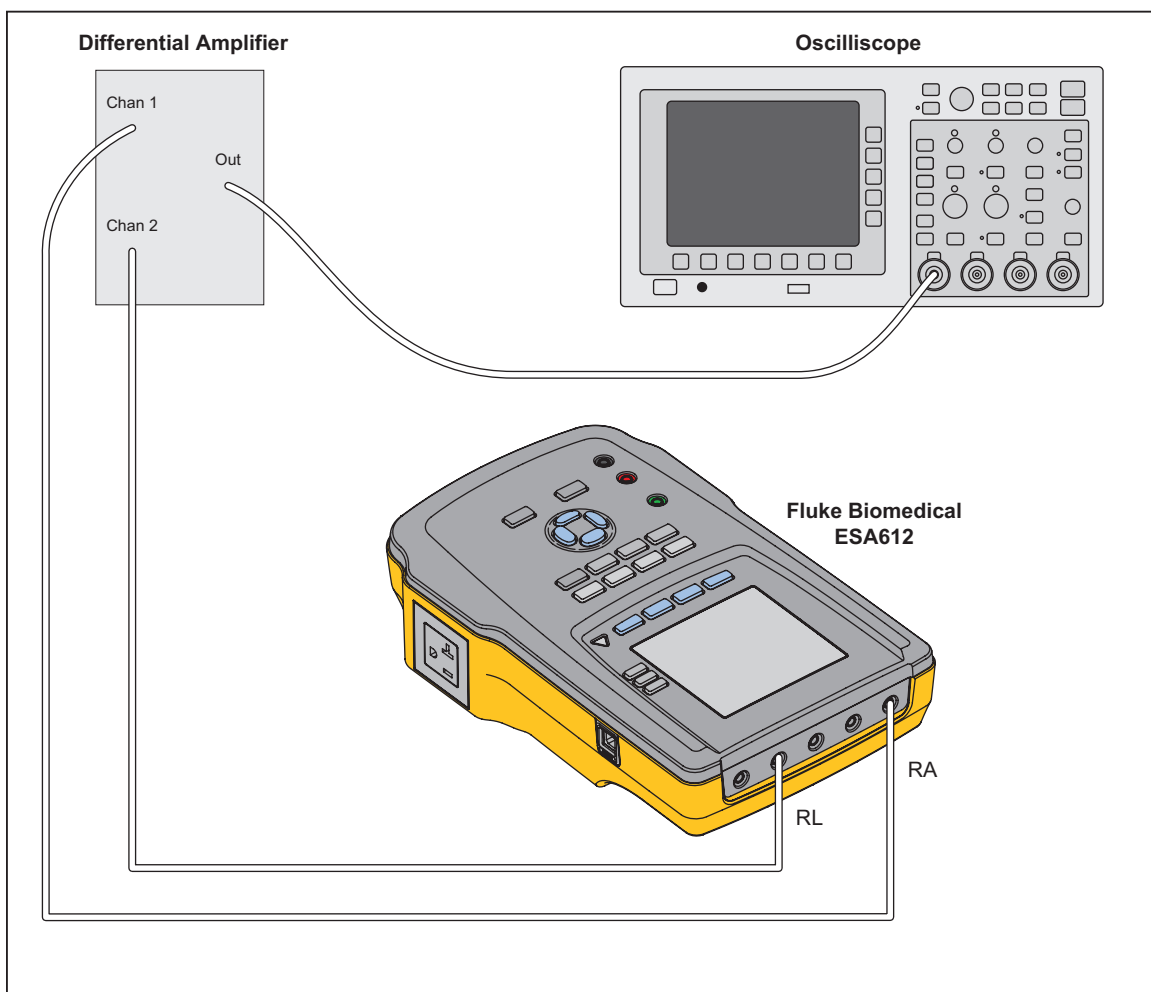

Figure 3-27. ECG Waveform Connections
1. Connect the Input (+) of the differential amplifier to the RA applied part and the Input (-) of the differential amplifier to the RL applied part. Connect the differential amplifier output to the oscilloscope. See Figure 3-27.